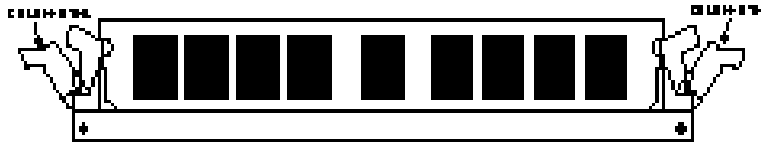

Figure 2-1. Installing a 168-pin DIMM
1. Hold the DIMM so that notched edge is aligned with the notch on the DIMM socket(Figure 2-1).